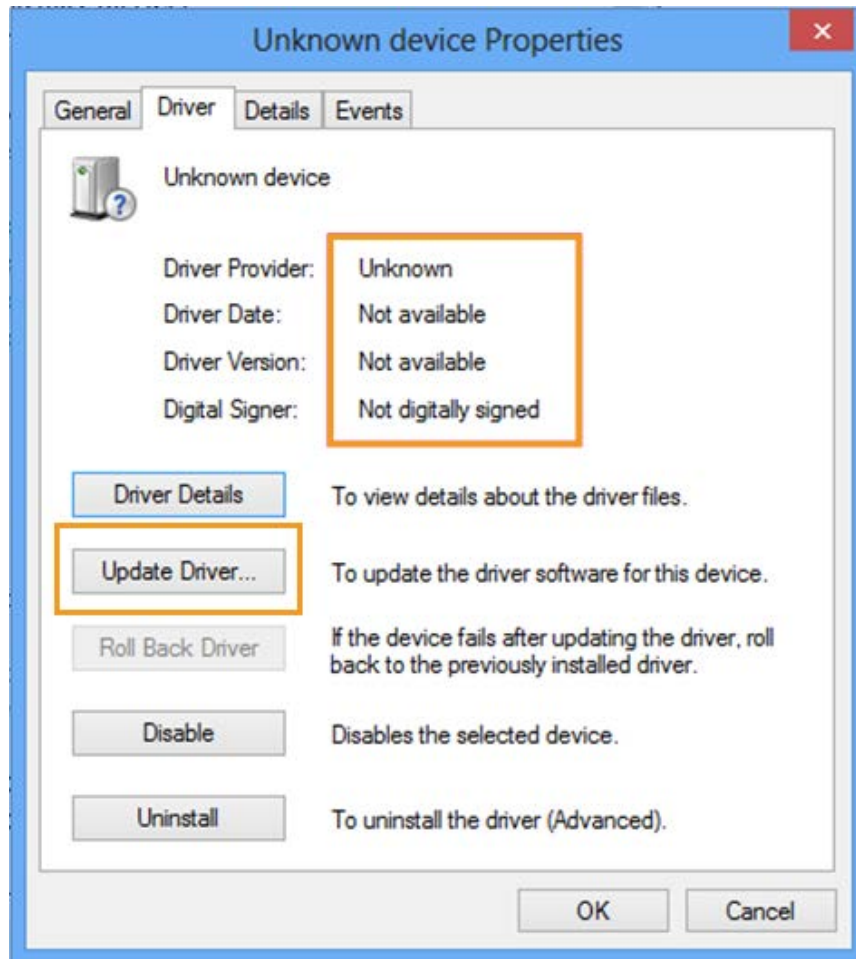

Figure 14. Unknown device on Windows 8 or later
- 3) An **Unknown device** will show under **Universal Serial Bus Controllers**. Double click the **Unknown device** and click **Update Driver...** (see Figure 14).